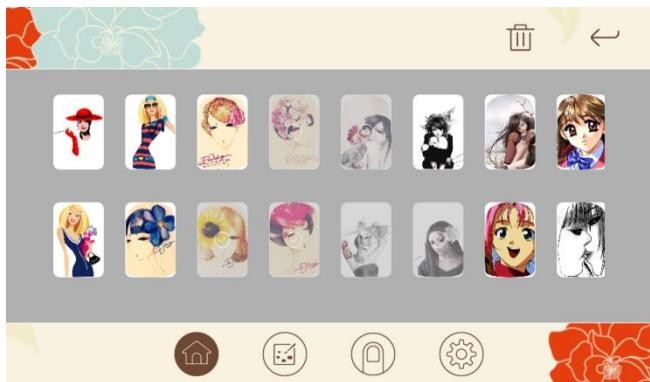
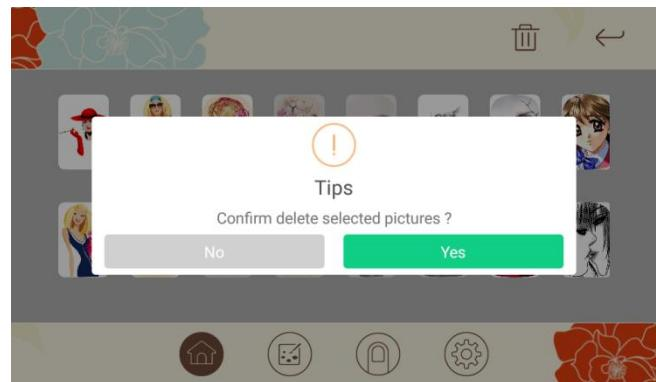

Figure 4
Figure 5
(4) Long pressing can delete the system gallery patterns, as shown in Figure 4 and Figure 5.